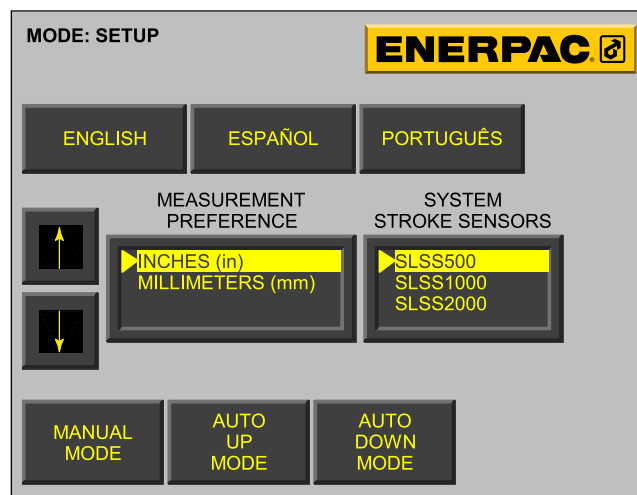

Figure 7
2. From the Set-up screen, select the **MANUAL** mode. (Fig. 7)